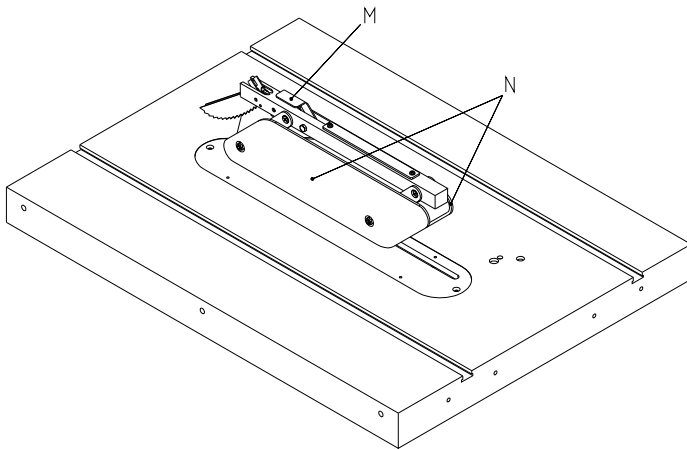
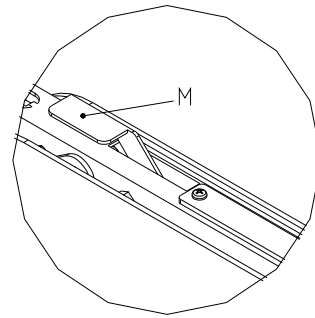

Fig.20
Fig.21
4. Put down the guards(N) as Fig.20 and lock the handle(M), then fix the handle(M) as Fig.21.